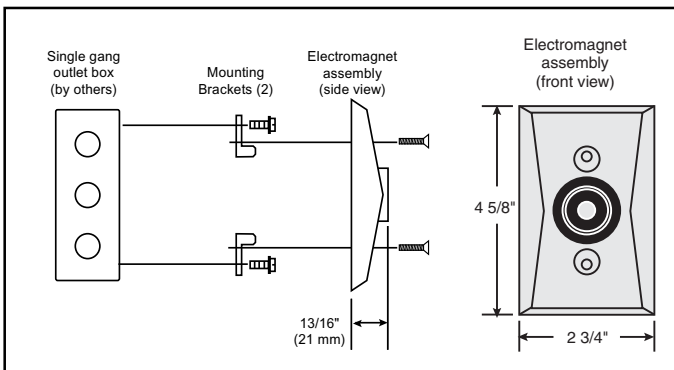

Figure 3. Mounting the Electromagnet Assembly
- Install the mounting brackets (2 pieces) in the outlet box with the field wiring below the bracket (Figure 3).
- Secure the electromagnet assembly to the cover bracket with the two #10-32 X 7/8" screws provided (Figure 3).